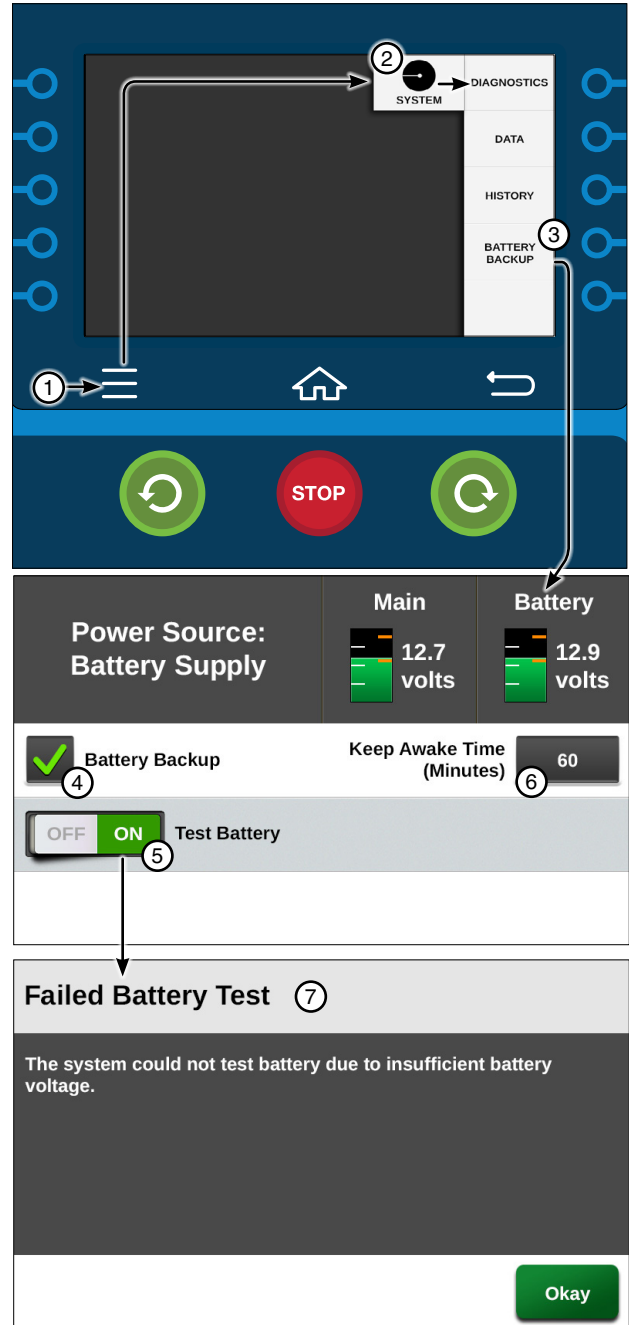

Figure 67-1
The Battery Backup screen provides the ability to keep the ICON, SRB, and telemetry awake for a set amount of time while the fault is sent to BaseStation. The Battery Backup screen also monitors the voltage from the main power source and the battery. The range of each voltage measurement is indicated by orange marks along one side of the volt meter. Battery Backup requires additional hardware. Refer to Figure 67-1.
If the backup battery has insufficient voltage the Test Battery Dialog screen will appear. Refer to Figure 67-1.
1. Push **Menu**, **System**, and **Battery Backup** to display the Battery Backup screen. Refer to Figure 67-1.